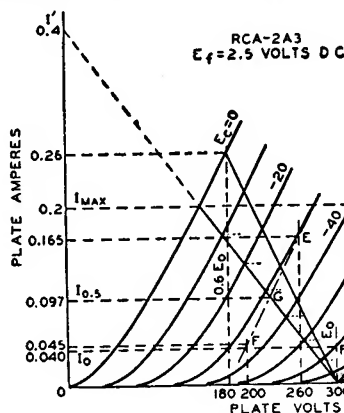
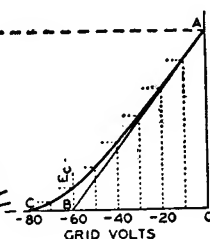

Fig. 24—Graphic calculations for class  $AB_1$  amplifier using the 2A3 power triode.
Fig. 25—Instantaneous curve for class  $AB_1$  amplifier.
point D in Fig. 24. Its position is not affected by the operating grid bias provided the plate-to-plate load resistance remains constant.
In general, for any load line through point D, Fig. 24, the plate-to-plate load resistance in ohms of a push-pull amplifier is  $R_{pp} = 4E_o/I'$ , where  $I'$  is the plate-current value in amperes at which the load line as projected intersects the plate-current axis, and  $E_o$  is in volts. This formula is another form of the one given under push-pull class A amplifiers,  $R_{pp} = 4(E_o - 0.6E_o)/I_{max}$ , but is more general. Power output  $= (I_{max}/\sqrt{2})^2 \times R_{pp}/4$ , where  $I_{max}$  is the peak plate current at zero grid volts for the load chosen. This formula simplified is  $(I_{max})^2 \times R_{pp}/8$ . The maximum-signal average plate current is  $2I_{max}/\pi$  or  $0.636 I_{max}$ ; the maximum-signal average power input is  $0.636 I_{max} \times E_o$ .
**Example:** Fig. 24 illustrates the application of this method to a pair of 2A3's operated at  $E_o = 300$  volts. Each tube has a plate-dissipation rating of 15 watts. The method is to erect a vertical line at 0.6 $E_o$ , or at 180 volts, which intersects the  $E_c = 0$  curve at the point  $I_{\max} = 0.26$  ampere. Using the simplified formulas, the following values are obtained:
The operating bias and the zero-signal plate current may then be found by use of a curve which is derived from the plate family and the load line. Fig. 25 is a curve of instantaneous values of plate current and dc grid-bias voltages taken from Fig. 24. Values of grid bias are read from each of the grid-bias curves of Fig. 24 along the load line and are transferred to Fig. 25 to produce the curved line from A to C. A tangent to this curve, starting at A, is drawn to intersect the grid-voltage abscissa. The point of intersection, B, is the operating grid bias for fixed-bias operation. In the example, the bias is —60 volts. Refer back to the plate family at the operating conditions of plate volts = 300 and grid bias = —60 volts; the zero-signal plate current per tube is seen to be 0.04 ampere.
tortion in a class  $AB_1$  amplifier using triodes is very small and is largely canceled by virtue of the push-pull connection. Third-harmonic distortion, however, which may be larger than permissible, can be found by means of composite characteristic curves. A complete family of curves can be plotted, but for the present purpose only the one corresponding to a grid bias of one-half the peak grid-voltage swing is needed. In the example, the peak grid voltage per tube is 60 volts, and the half value is 30 volts. The composite curve, since it is nearly a straight line, can be constructed with only two points (see Fig. 24). These two points are obtained from deviations above and below the operating grid and plate voltages.
These steps provide points at 260 volts and 0.165 ampere (E), and at 200 volts and 0.045 ampere (F). A straight line through these points is the composite curve for a bias of -30 volts, shown as a long-short dash line in Fig. 24. At the intersection of the composite curve and the load line, G, the instantaneous composite plate current at the point of one-half the peak signal swing is determined. This current value, designated  $I_{0.5}$  and the peak plate current,  $I_{max}$ , are used in the following formula